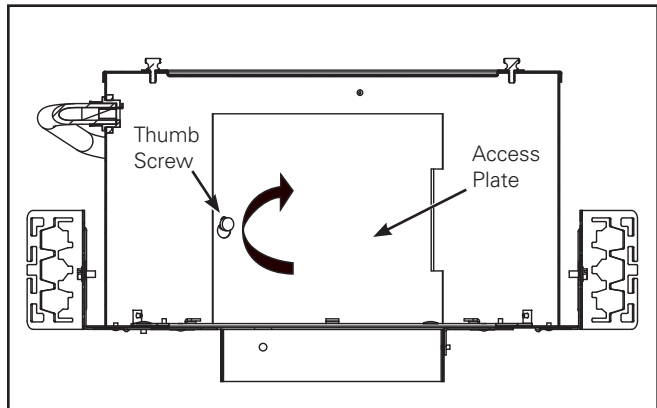

Figure 14.
1. If below the ceiling remove trim assembly from housing then loosen Thumb Screw, rotate Access Plate clockwise slightly and pull in to remove (Figure 14).